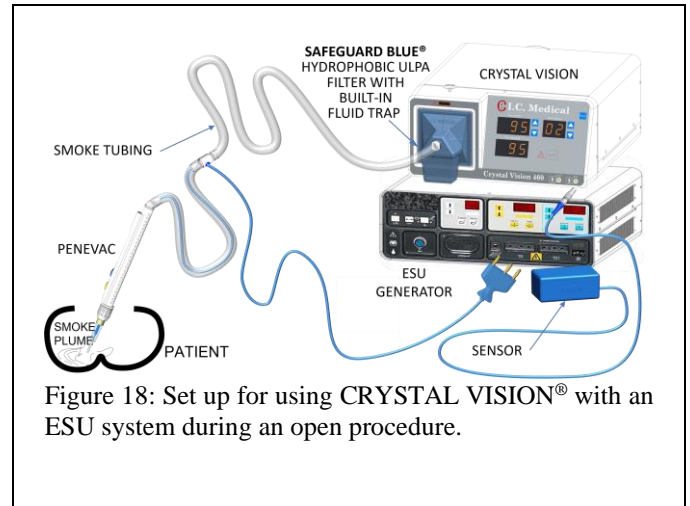

Figure 18: Set up for using **CRYSTAL VISION®** with an ESU system during an open procedure.
3. Refer to Figure 18 or 19 for set-up.